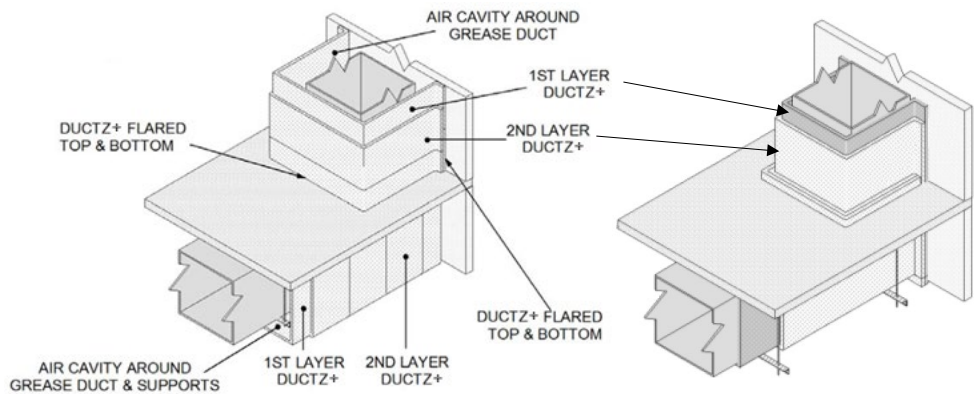

Figure 3. Three-Side Installation Top Isometric (Shown with and without Optional Air Cavity)
- B. **THREE-SIDED INSTALLATION** – Refer to Figures 3 and 4.